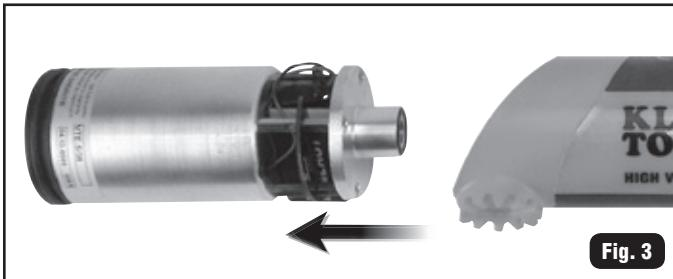

Fig. 3
2. Slide the inner cylinder out of the main housing (Fig. 3).